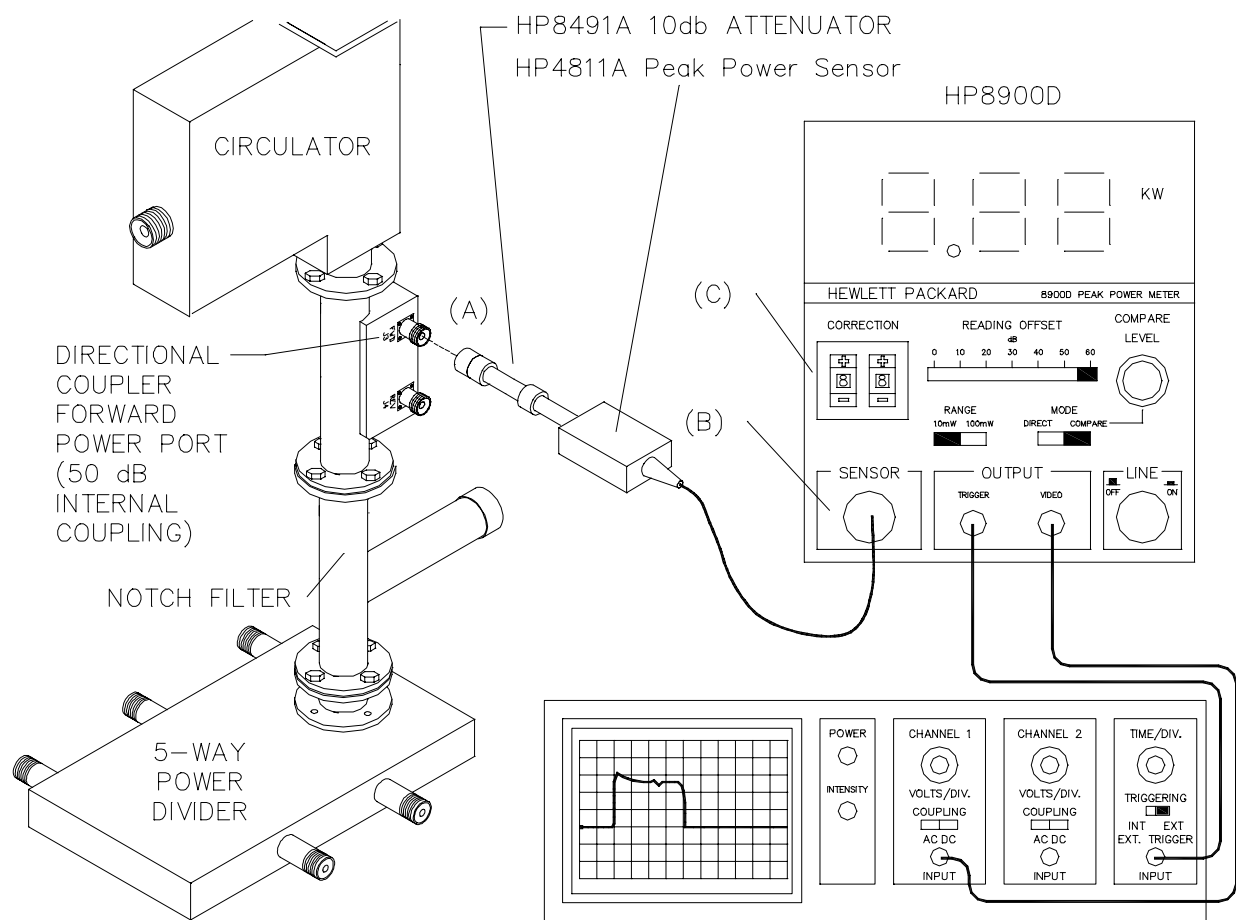

Figure 4-4 Forward Power Sensor Calibration Test Equipment Setup
1. Remove the side panel of BSU Cabinet and disconnect the 3-dB pad and coaxial cable from the forward power port on the Directional Coupler (point A in Figure 4-4).
1. Connect one end of the HP8491A 10-dB Attenuator to the HP84811A Power Sensor and the other end to the FWR (forward) power port of the Directional Coupler as illustrated in Figure 4-4.
2. Connect the output cable of the Power Sensor to the SENSOR input of the HP8900D Peak Power Meter (point B in Figure 4-4).
3. Determine the correction factor marked on the HP84811A Power Sensor that is nearest to the 400-MHz range and dial it into the CORRECTION switches on the front panel of the HP8900D Peak Power Meter (point C in Figure 4-4).
5. Connect the Trigger Output of the HP8900D to the External Trigger Input of an oscilloscope using a BNC (M) to BNC (M) coaxial cable.
6. Connect the Video Output of the HP8900D to Channel One of the Oscilloscope using a BNC (M) to BNC (M) coaxial cable.